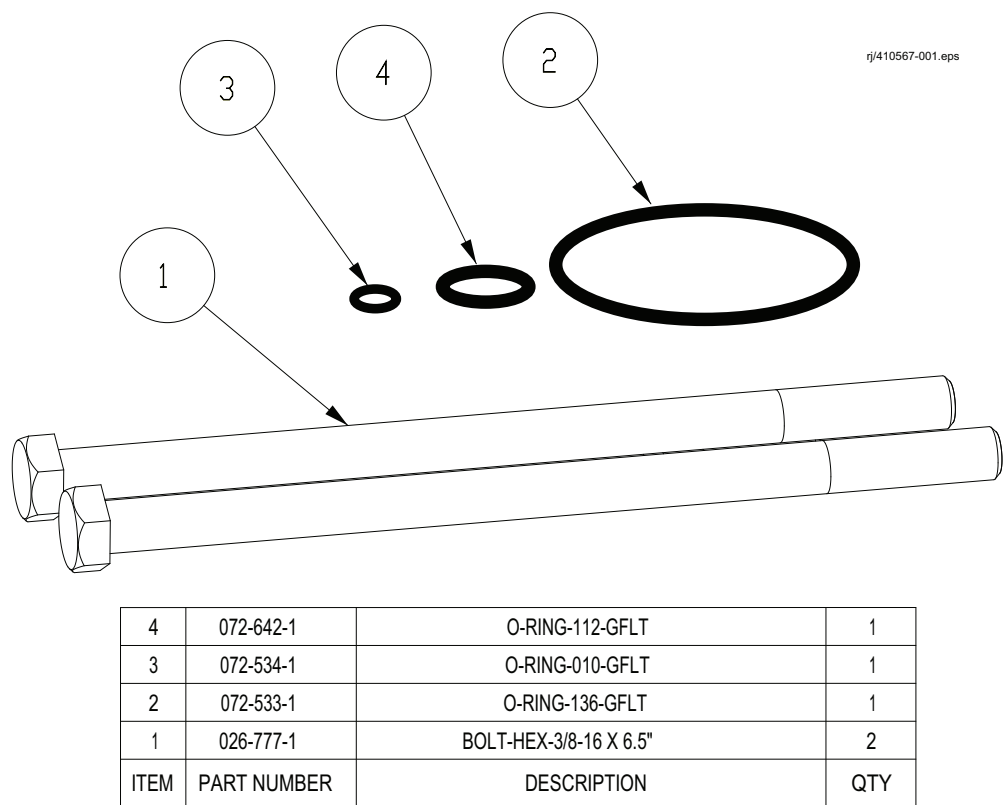

Figure 11. Service Kit 410567-001 Fasteners, Seals
- Service Kit 410567-001 Fasteners, Seals (See Figure 11).